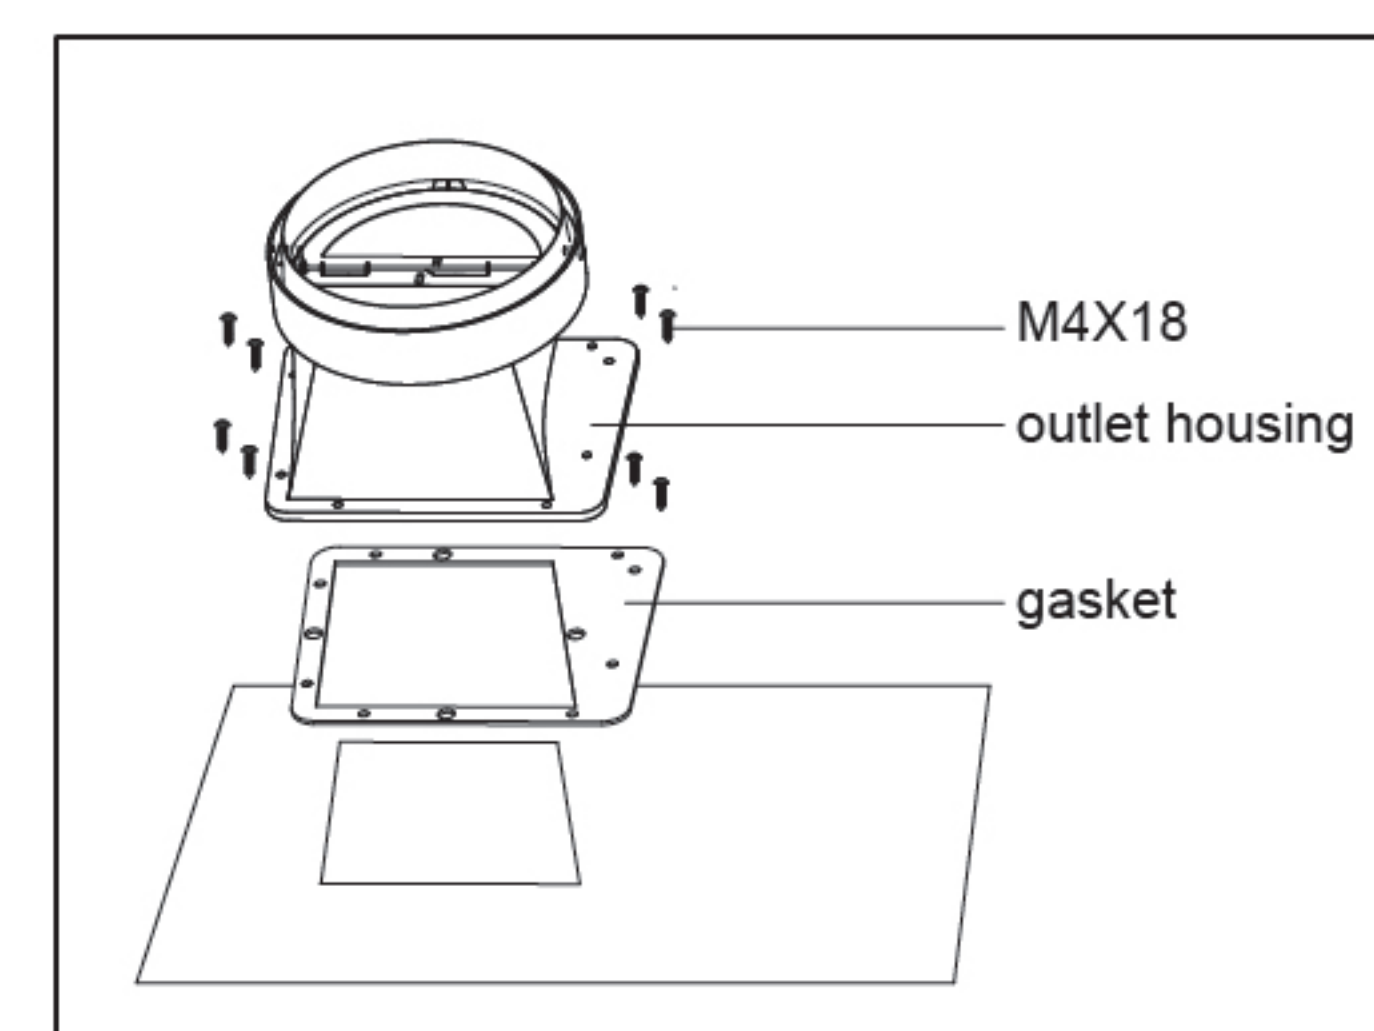

fig 3
- Place the outlet housing and the sealing rings at the air outlet of the main body, and use 8 screws (M4 \times 18mm) to fix the outlet housing and the sealing rings. (fig3)